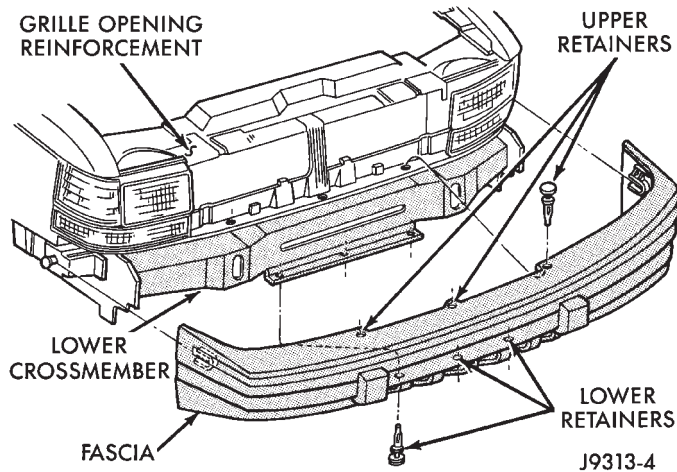

Fig. 3 Lower Fascia Removal
- (3) Remove turn signals, side markers and headlamps. Refer to Group 8L - Lamps for procedures.
- (4) Remove 6 retainers at front fascia (Fig. 3).
- (6) Slide fascia off retainer pegs at side of lower crossmember. Using a small screwdriver, pull up on locating tangs under turn signal mounting location.
- (7) Remove fascia from lower crossmember (Fig. 3).